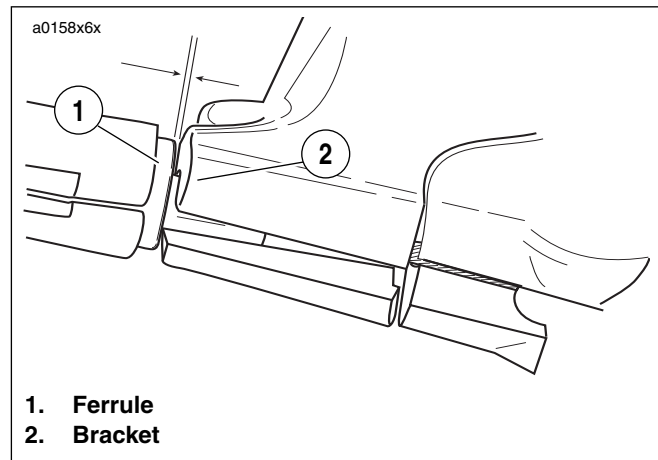

Figure 1-14. Adjusting Clutch Freeplay
- Remove spring (4) and lockplate (5). Turn adjusting screw (6) counterclockwise until it lightly bottoms.
- Turn adjusting screw (6) clockwise 1/4 - 1/2 turn. Install lockplate (5) and spring (4) on adjusting screw flats. If hex on lockplate does not align with recess in outer ramp, rotate adjusting screw clockwise until it aligns.
- a. See Figure 1-14. Pull ferrule (end of cable housing) away from bracket. Gap between ferrule and bracket should be 0.0625-0.125 in. (1.6-3.2 mm).